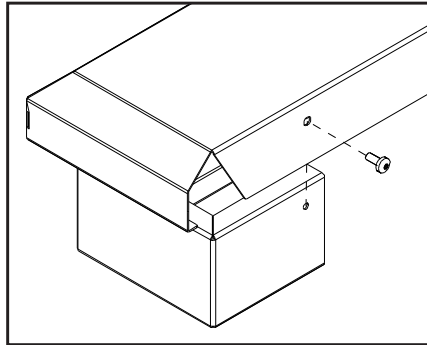

Figure 30: Installing Base Shelf onto Riser.
3. If installing with riser(s) the Base Shelf is to be fastened to the riser(s) with one T-20 screw at each end of the back (see Figure 30).